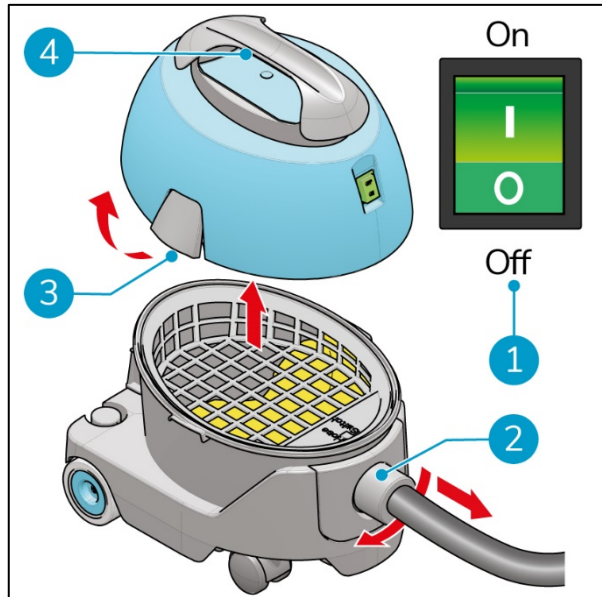

Figure 8
1. Turn off the i-vac 5 with the ON/OFF switch (Figure 8, pos 1).
2. Remove the hose ( Figure 8, pos 2).
3. Release the latches (Figure 8, pos 3).
4. Lift the head by the handle (Figure 8, pos 4).